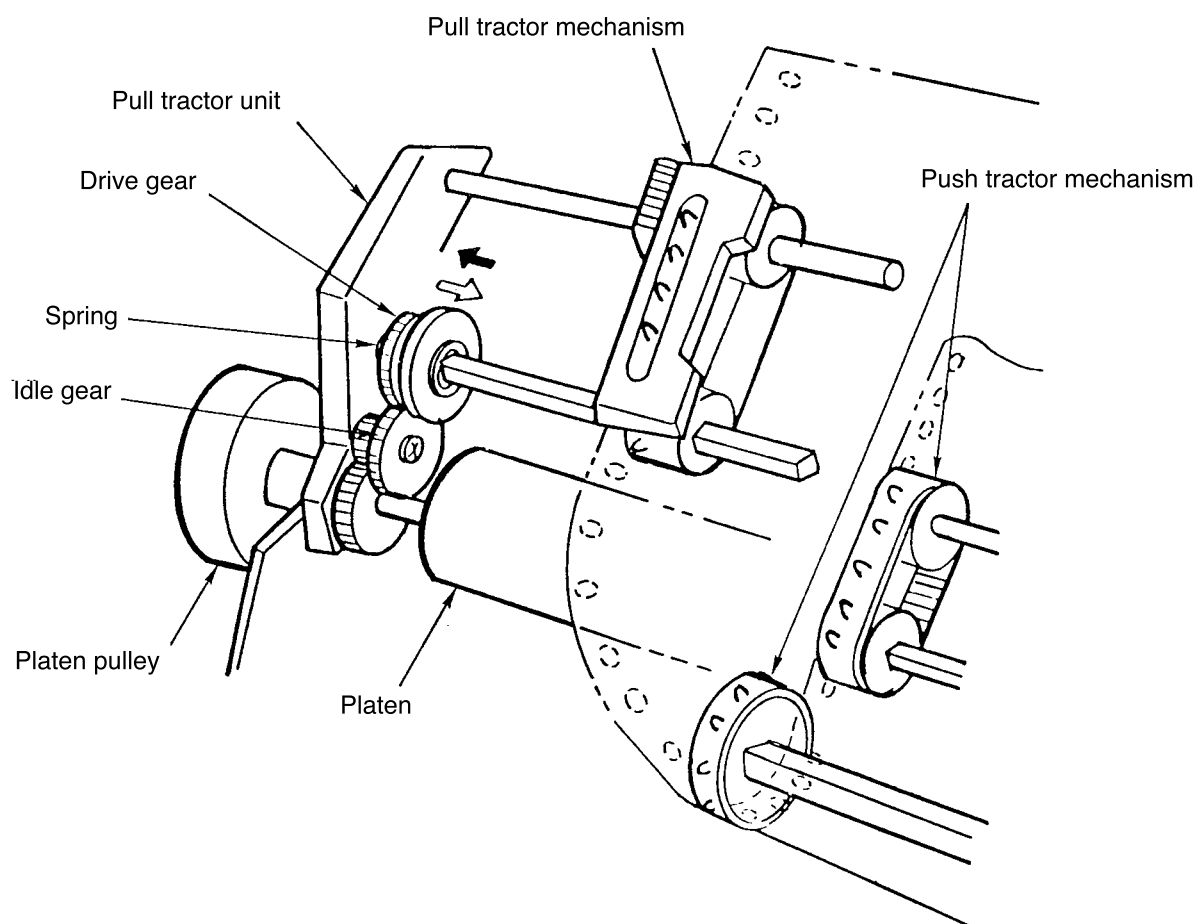

Figure 2.10 Push-pull tractor mechanism
(5) Push-pull tractor mechanism (Option) (See Figure 2.10)